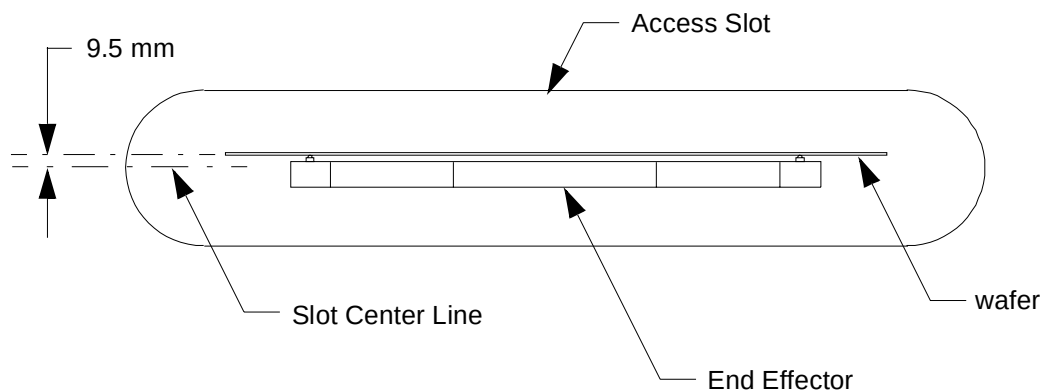

Figure 7-4: Positioning the End Effector to Set BTO
4. Set the height of the end effector above the access slot floor using a ruler, or a gauge block made for the appropriate vertical height, as shown in **Figure 7-4**.